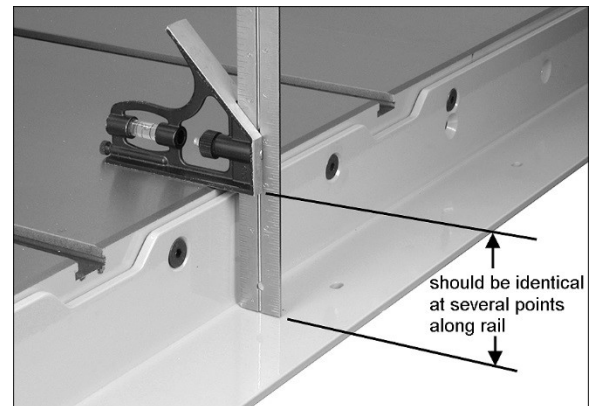

Figure 7-3
4. The front rail must be parallel to table top in order for the Accu-Fence system to function properly. Place an adjustable square on the table, as shown in Figure 7-3.